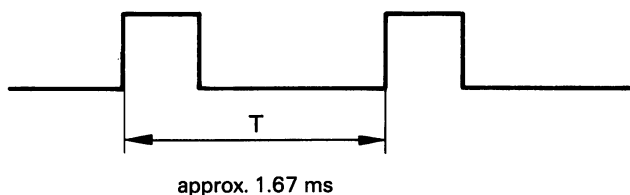

Fig. 4-25. PTS Signal Synchronization
4.3.4 PTS Sensor Adjustment (Figs. 4-25 and 4-26)